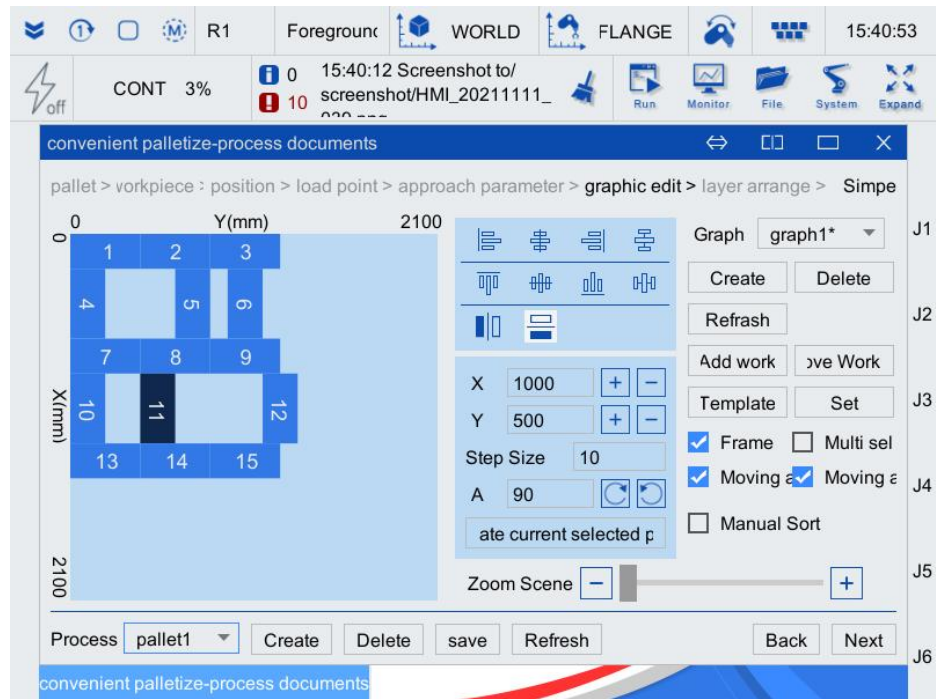

Figure 3-21 Diagram after dragging manually
Step4. Manually drag workpiece 6 between workpiece 3 and workpiece 9, drag workpiece 5 between workpiece 2 and workpiece 8, between workpiece 12 to 9 and 15, and drag workpiece 11 between workpiece 8 and workpiece 14. Select the workpiece to be fine tuned, and add "Step Size" when dragging, that is, fine tune by clicking "+ / -" after "X / Y", as shown in Figure 3-21.